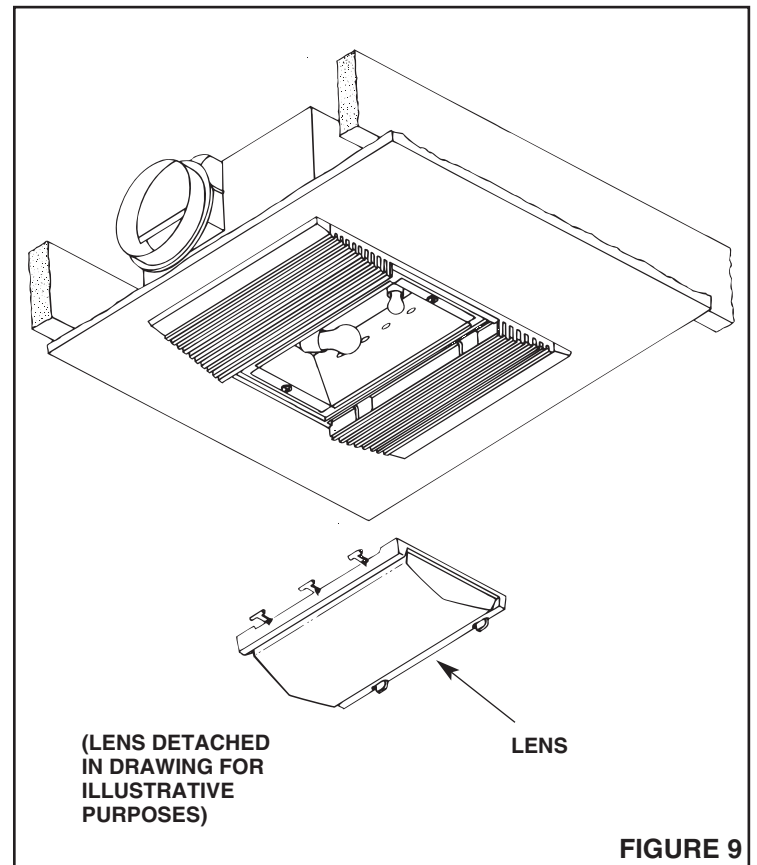

FIGURE 9
6. **Refer to Figure 9.** Snap lens into place.